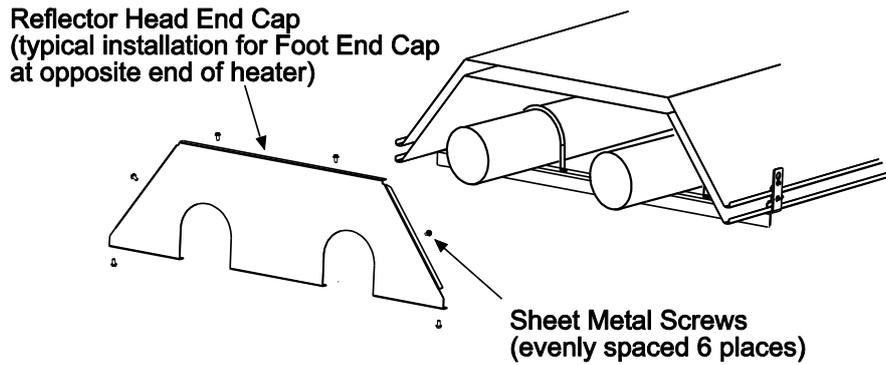

Fig. 21p
16. Tighten all screws securing clamps and brackets installed earlier. Place **end reflector caps** and secure using screws (supplied in fastening kits) as shown in Fig 21p below: